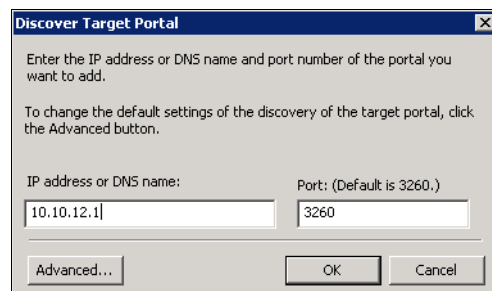

Figure 5-45 Discover Target Portal window
5. Click **Discover Portal...**, and enter the IP address of another IBM Storwize V3500 iSCSI port, as shown in Figure 5-45. Click **OK**.